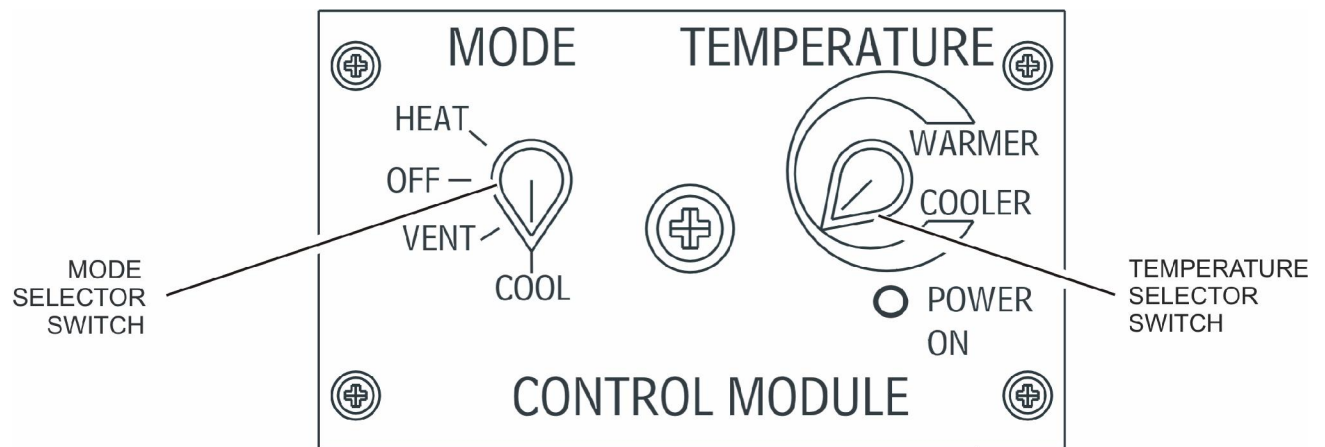

Figure 3. Remote Control Module
8. Turn the temperature selector switch to WARMER. See Figure 3.